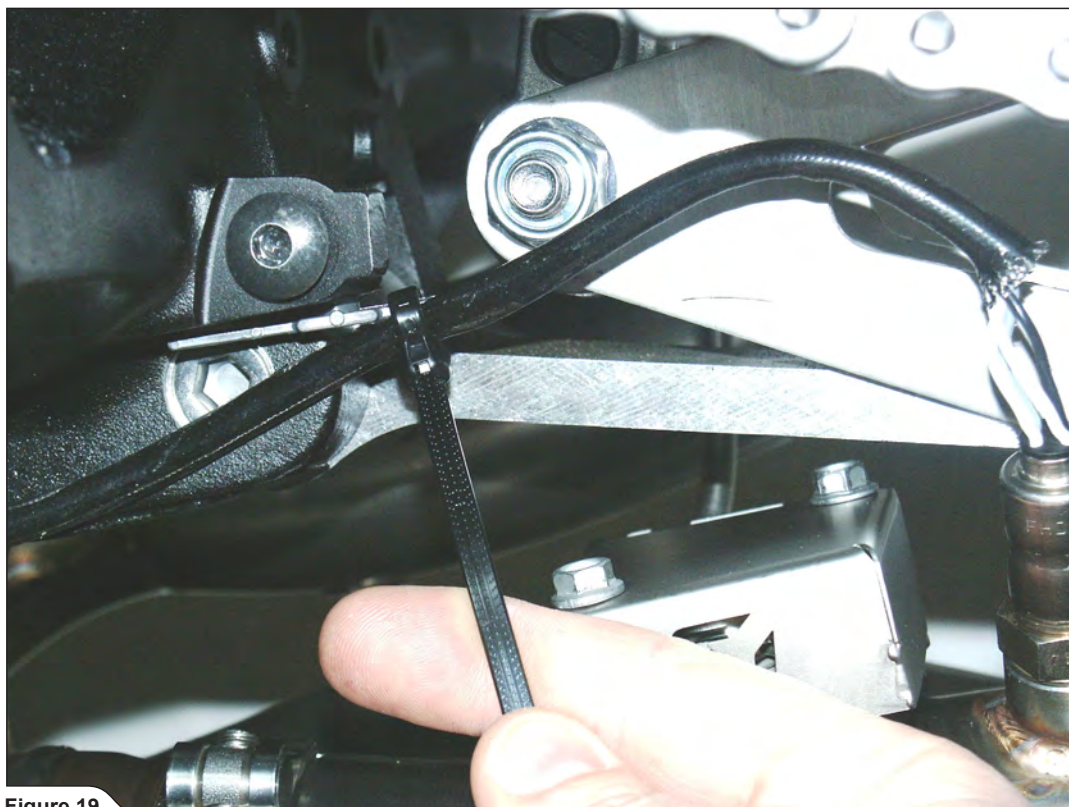

Figure 19
8. Fix the lambda sensor electrical lead with plastic tie onto the stock plastic bracket and cut away excess of the tie (Figure 19)